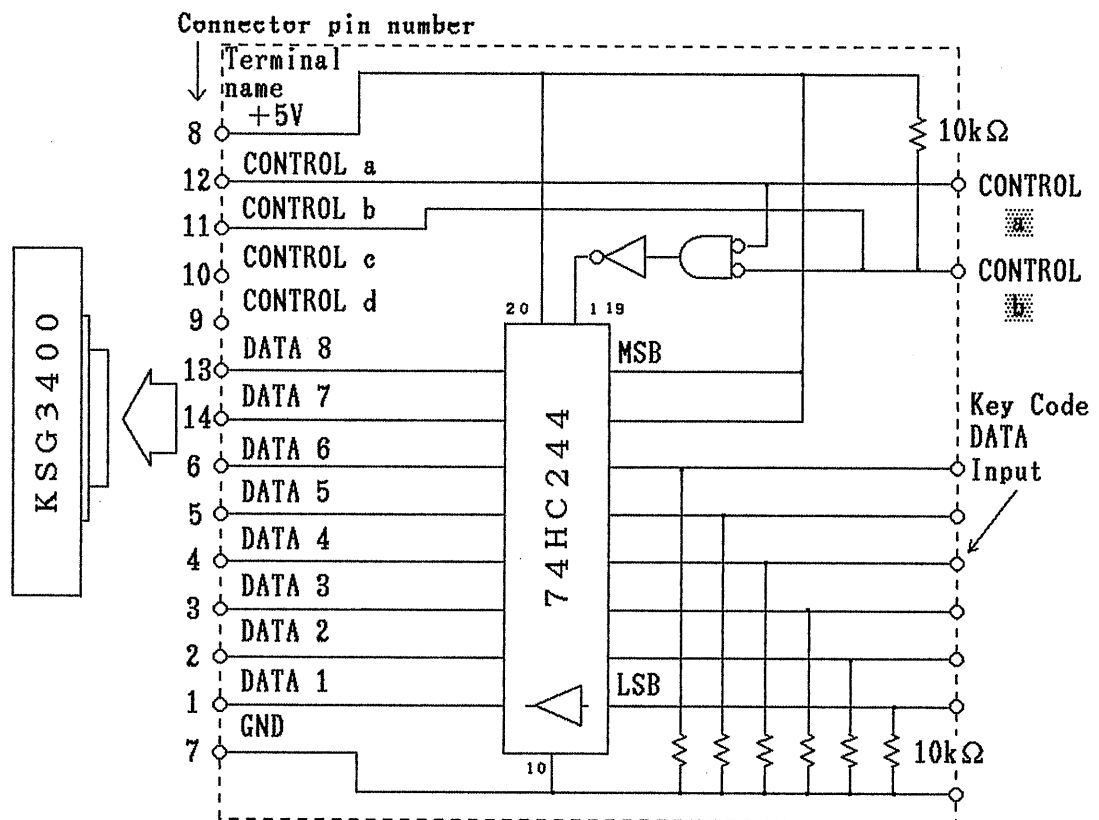
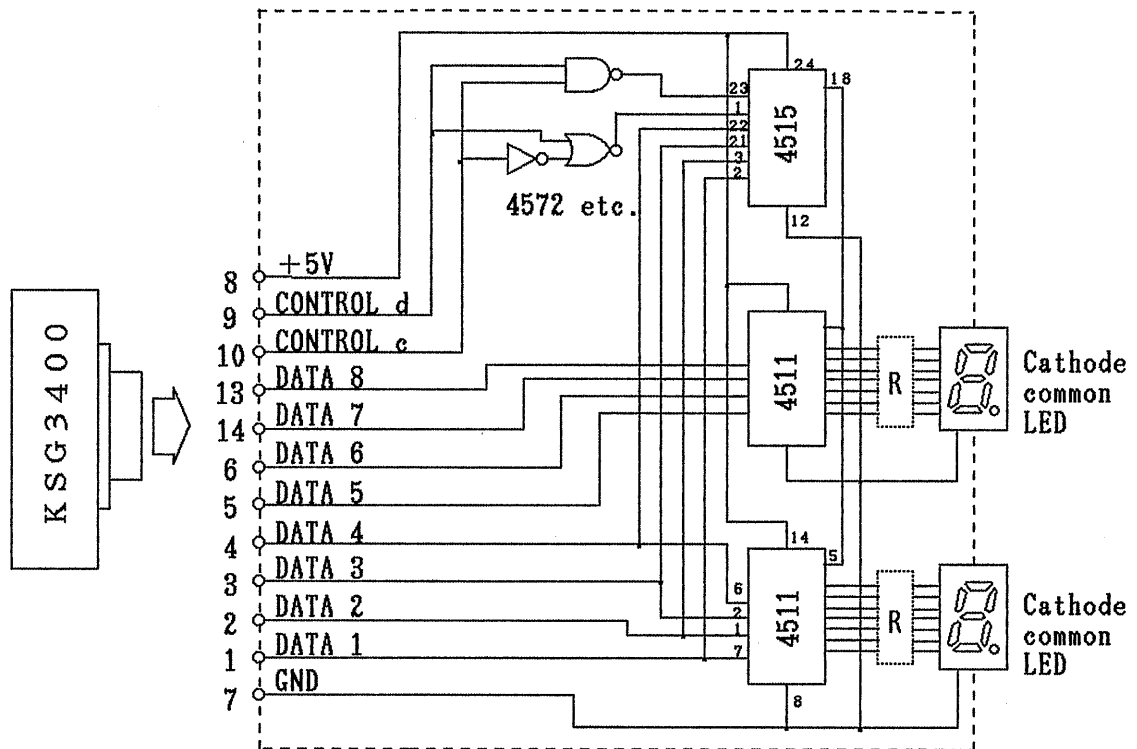

Figure 5-4
Figure 5-6
Since the data lines of the remote control connector are bidirectional bus lines, it is recommended to use the circuit shown in Figure 5-4 when controlling the signal generator from a remote unit.
Figure 5-4 shows the circuit for controlling the KSG3400 in remote mode. When CONTROL ☐ is "1", set the key code data (DATA 1-6) based on key code table (Table 5-1) to the key code data input terminal, and more than 10 μ sec after the last data is stabilized, set CONTROL ☐ to "0".
Figure 5-6 shows example circuit.
Since the remote control terminal has a bidirectional bus structure, it can output the same data displayed in the ② MEMORY section of the signal generator through the circuit shown in Figure 5-6. Additionally, the data in the ② MEMORY section can be used for a process if the CMOS 4511 is replaced by a latch circuit.
If the circuit in Figure 5-4 is connected to that in Figure 5-6 by the connector section in parallel, the user can control the signal generator by a remote unit, display the data in ② MEMORY section, and check the data on the signal generator.